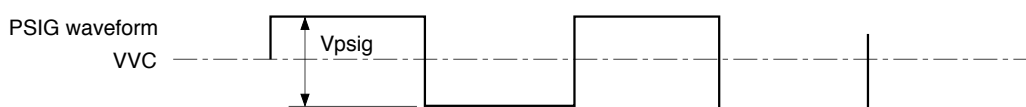

Fig. 1
- 1) During 4:3 display, input the voltage amplitude symmetrical to VVC as shown in Fig. 1.